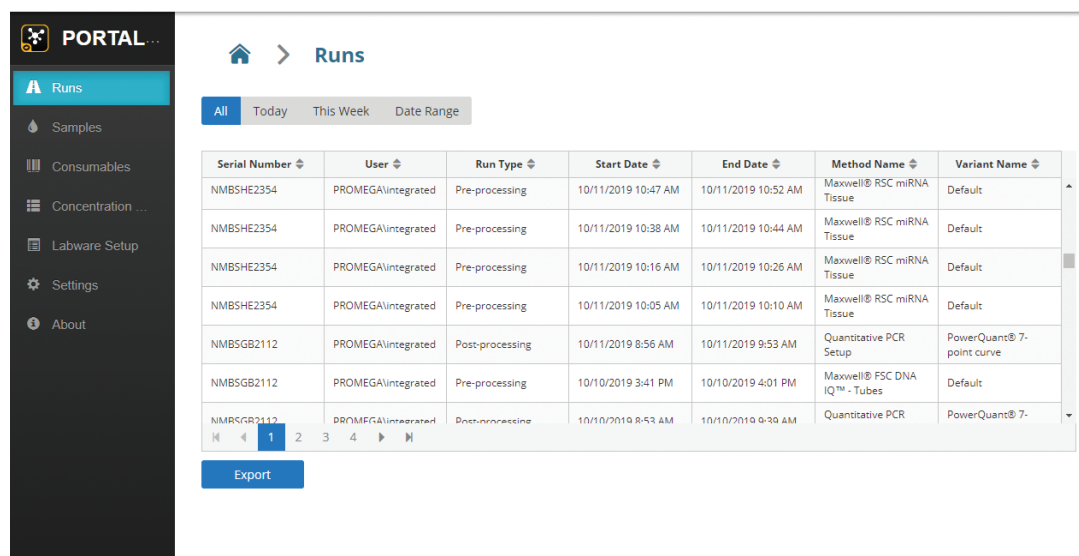

Figure 7. Portal Access Functions. The left side of the screen presents a series of buttons used to access the functions available in Portal Access.
4. After pressing Enter, the Portal Access ‘Runs’ screen will be displayed (Figure 7).
Upon starting Portal Access, you will be presented with the 'Runs' screen (Figure 7). The left side of the screen presents a series of buttons to access the functions available in Portal Access.